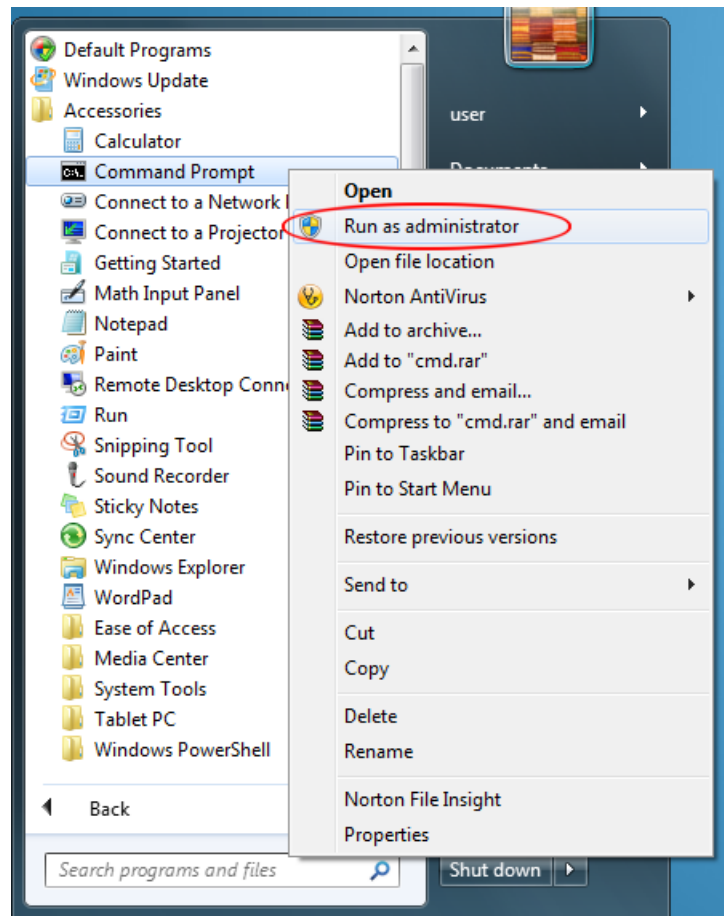

Figure 3-12: Command Prompt with Administrator Privileges
2. Open Device Manager (click **Start** > **devmgmt.msc** then press **Enter**) and look for the Xilinx PCI Express Device as shown in Figure 3-12.
3. Open the command prompt with administrator privilege (as shown in Figure 3-12):